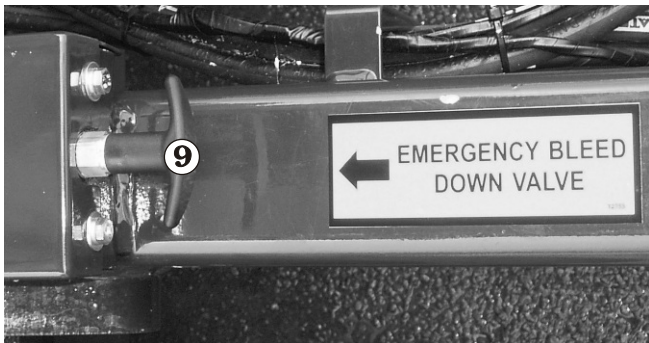

Figure 9.6 - Manual Bleed Down Control
6. If the platform will not lower, the person on the ground will need to use the manual bleed down ⑨ (see Figure 9.6) located at the front of the chassis. To lower the platform pull on the cable ⑨ until the platform is fully lowered.